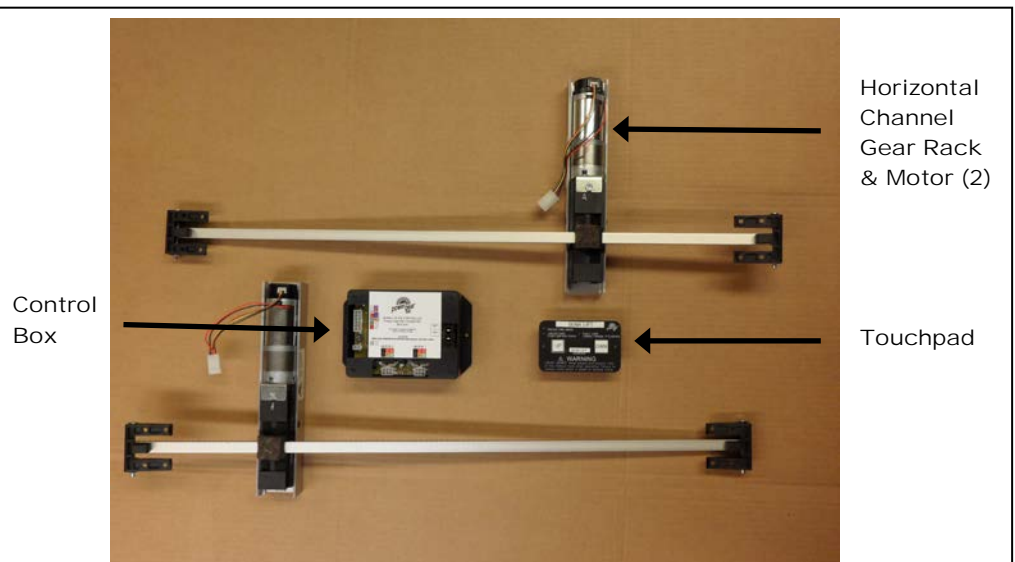

Figure 2 Bunk Lift System Components
- A specially designed control that gives the user full control of the bunk movement, up or down. The control has programmed stops that control the motor when the bunk is fully raised or lowered, and the ability to detect faults for ease in troubleshooting. (See Figure 2)
- Two to four vertical channels with 12V DC gear motors which mount to the bunk, and gear rack arms that mount to the vertical structure. (See Figure 2)